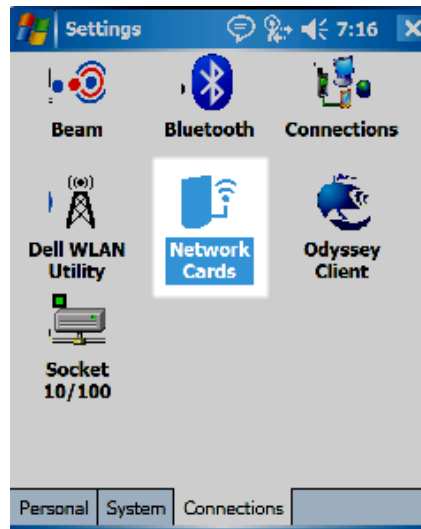

Figure 37: Network Cards icon
2. From the Connections tab, tap the **Network Cards** icon (Figure 37). The WLAN Utility window appears.